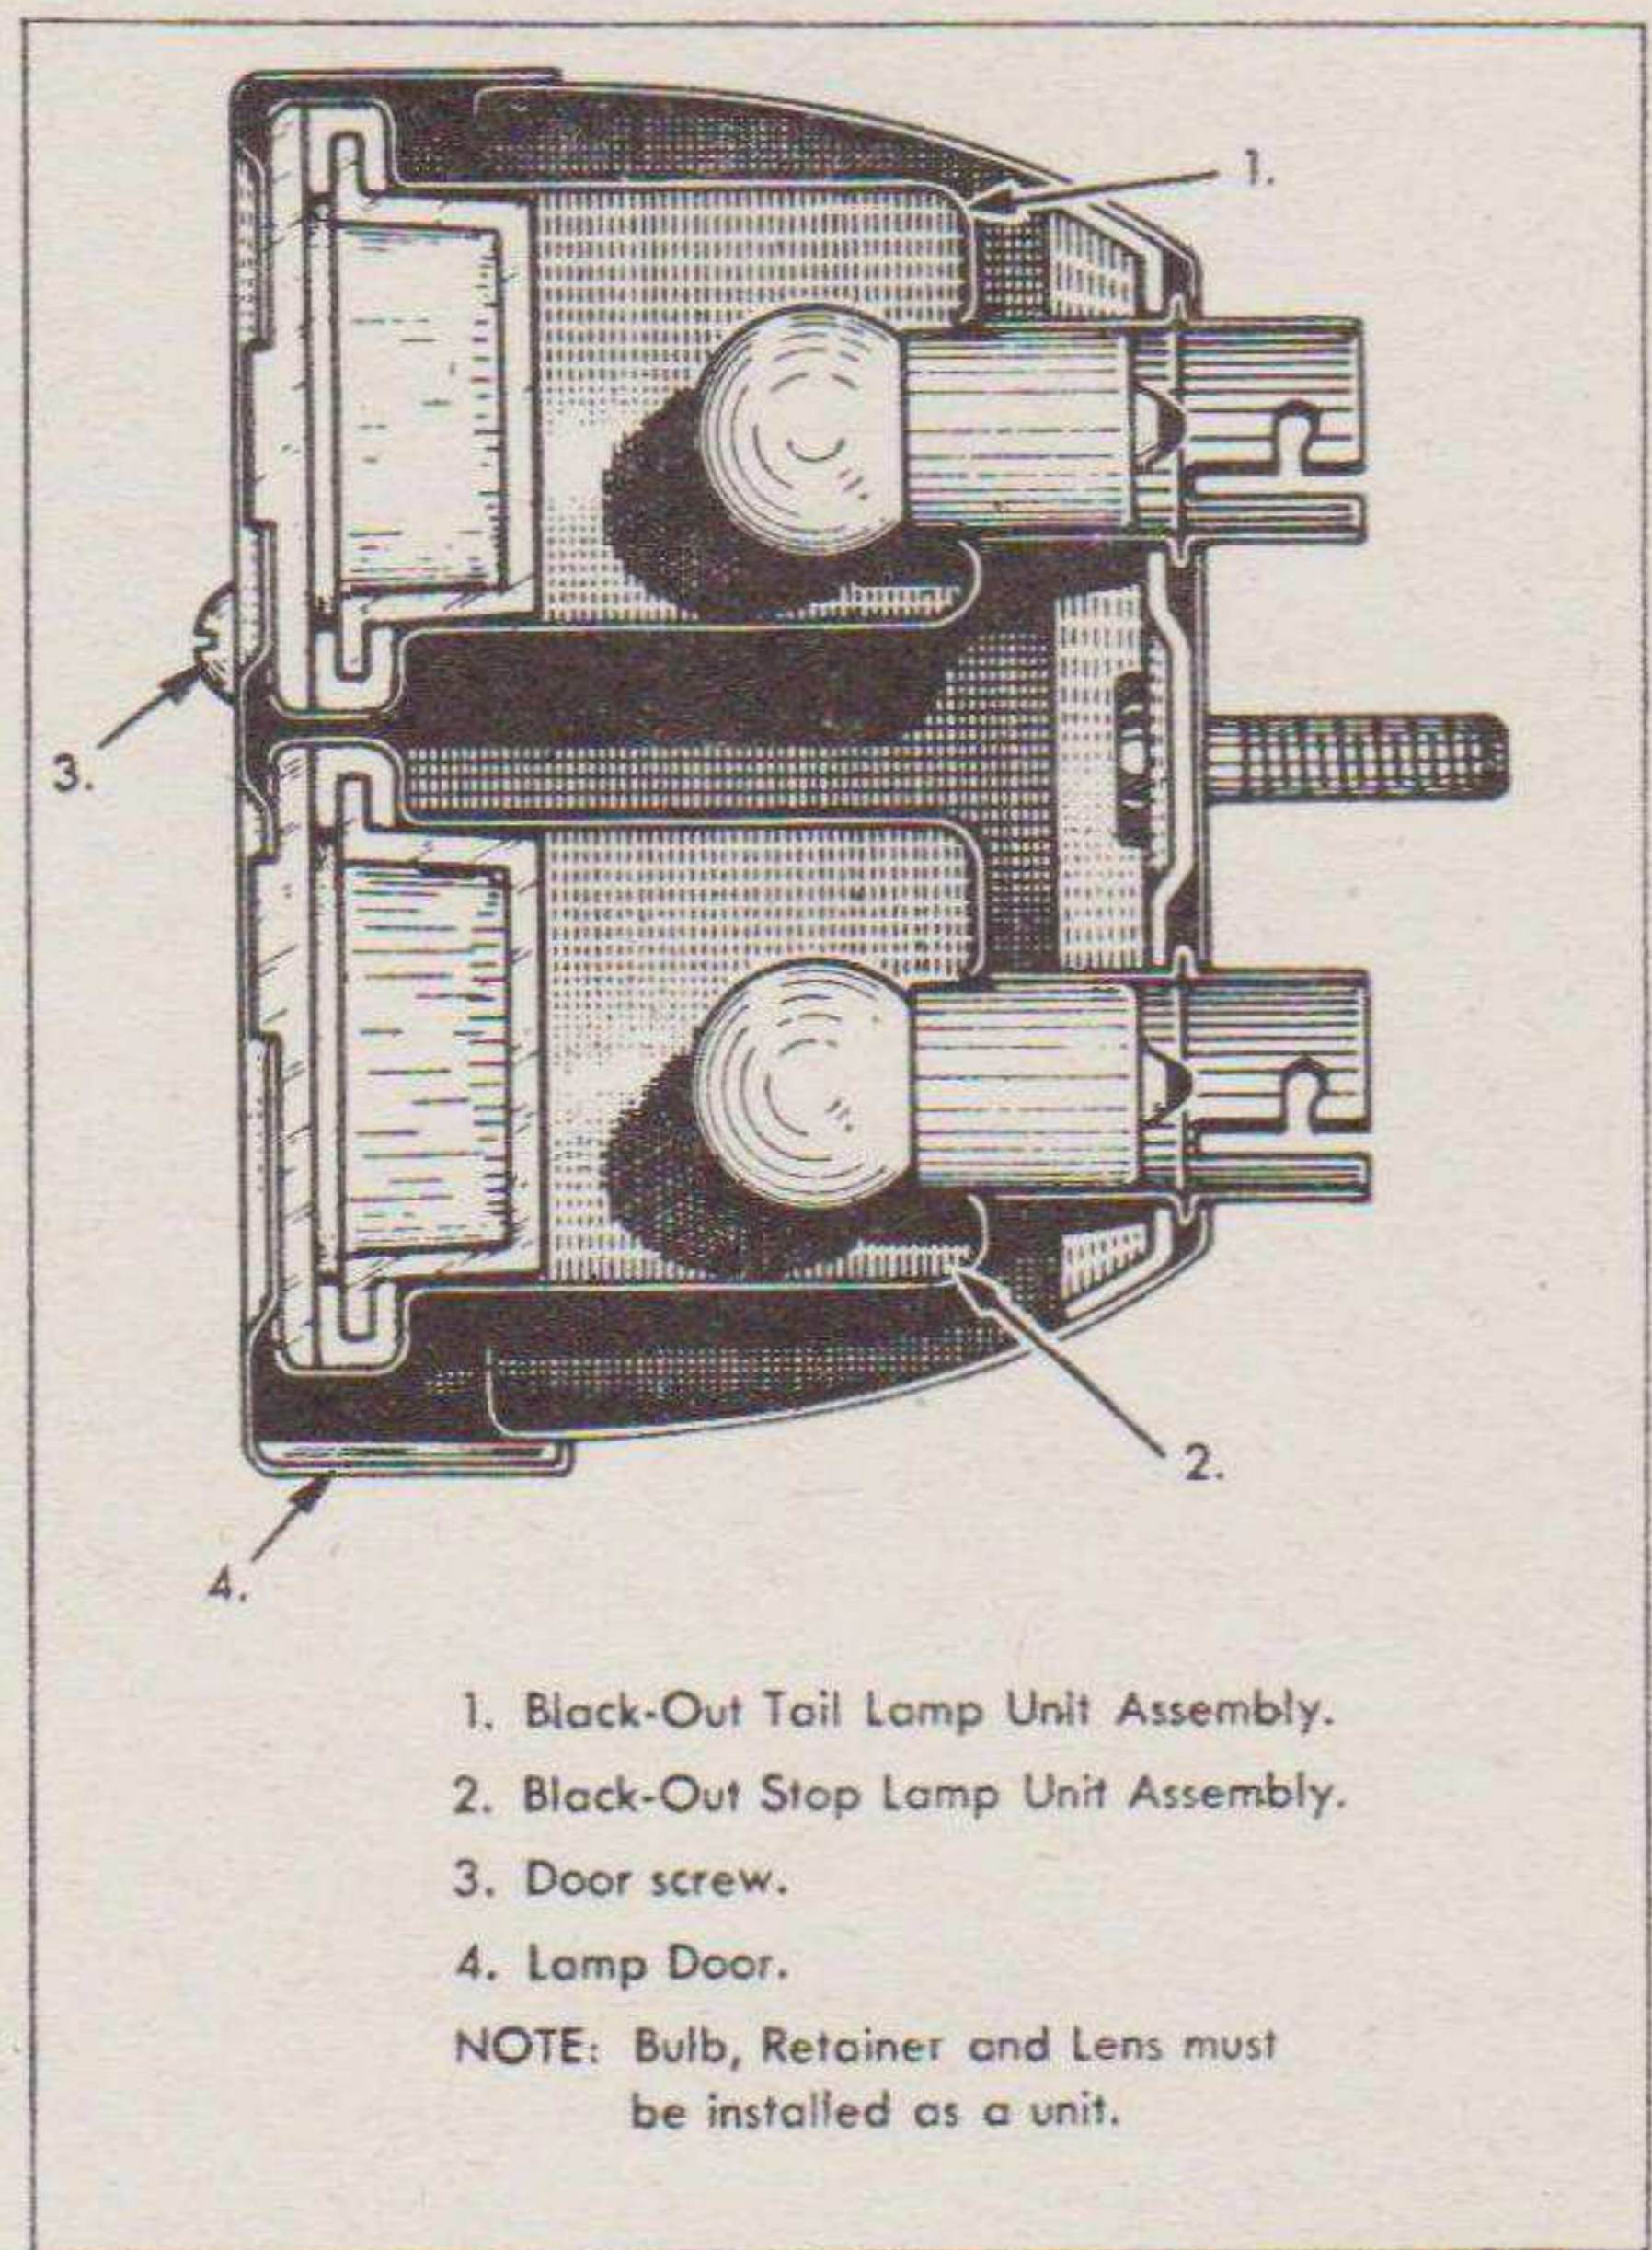

FIGURE 31. BLACKOUT STOP AND TAIL LIGHT
c. To insure the accuracy of construction necessary to produce this effect, the bulb is soldered to the lense retainer and the lens and filter are crimped to the retainer to form a complete unit. When the bulb is burned out it is necessary to replace the complete bulb unit. (Refer to Figures 31 and 32.)
(1) If there is sufficient current to the trailer and yet all lights fail to burn, check the fuses. Replace if burned out. Check the wiring. If broken, tape or replace. Check connections, grounds, and the bulbs. Clean and tighten connections and grounds; replace burned out bulb assembly.